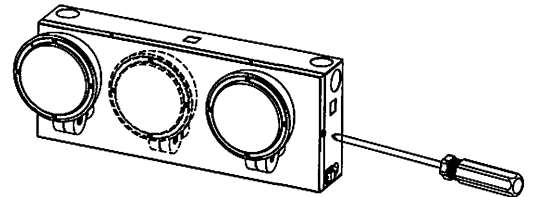

Fig 1
1. Remove side screw using screwdriver and open front cover (see Fig 1).